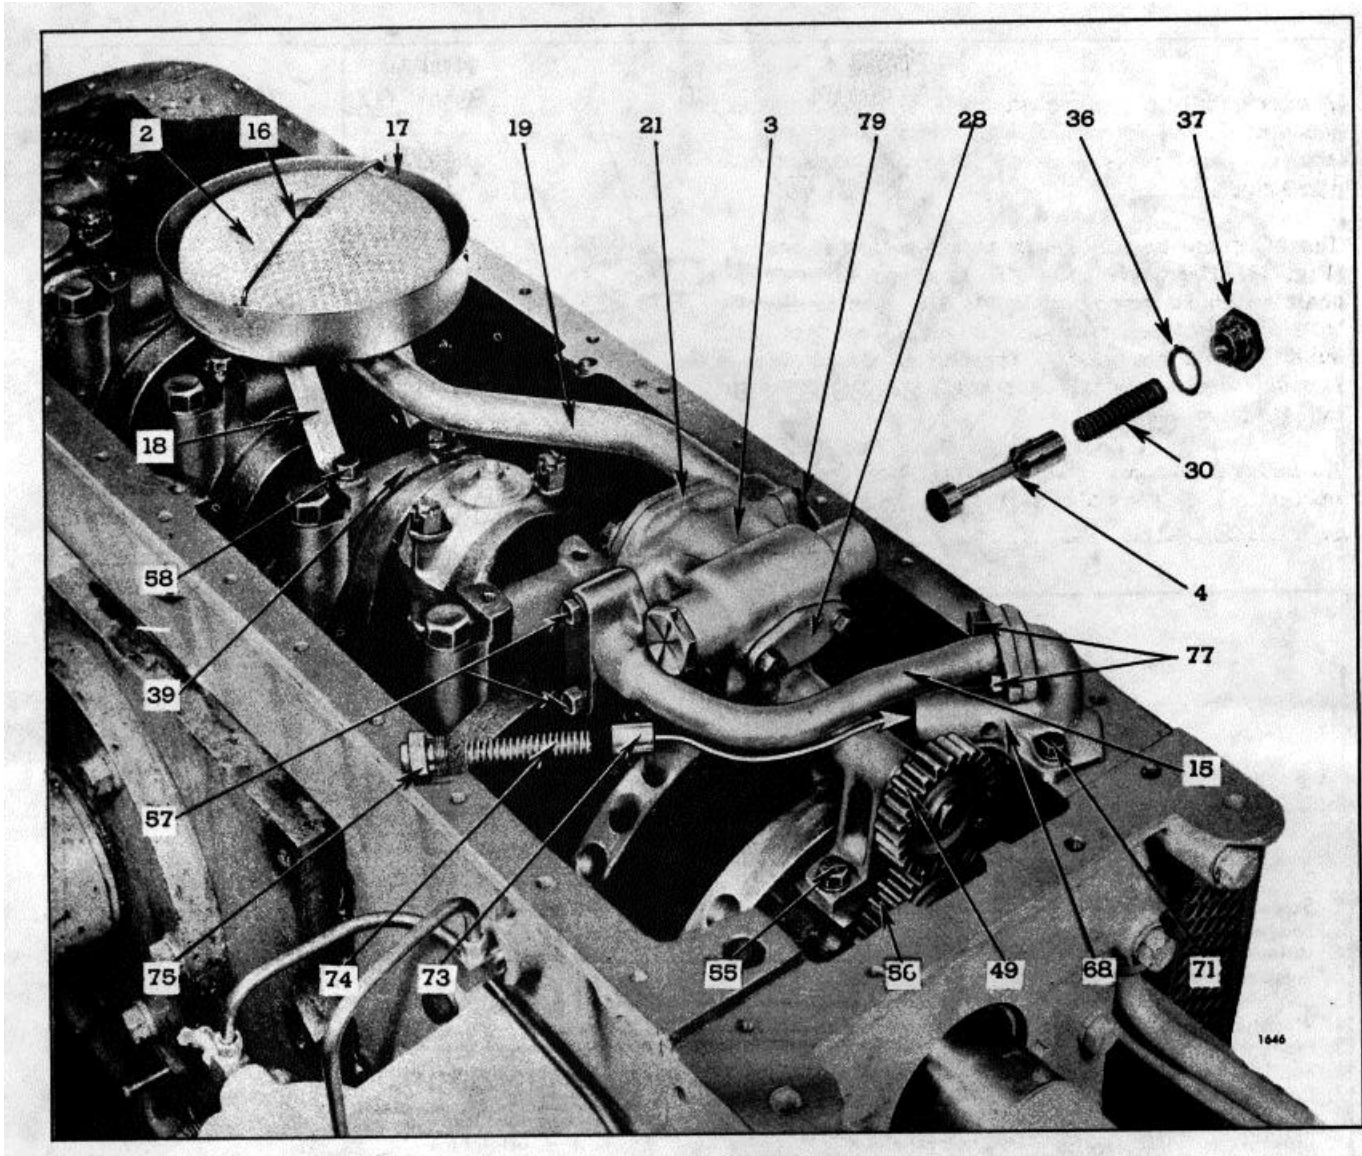

Fig. 2 - Typical Oil Pump Mounting.
3. Remove the bolts and lock washers securing the oil pump, regulator body and oil outlet tube and oil inlet tube support from the main bearing caps, and cylinder block (Fig. 2).